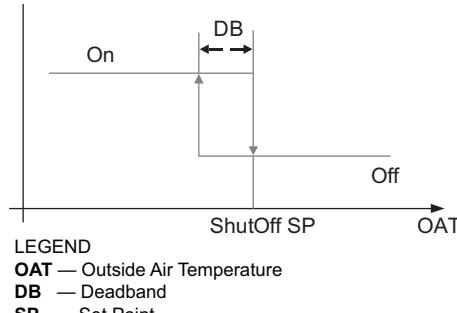

Fig. 68 — Hysteresis Settings
Hysteresis setting (DB) defaults to 2°F (−17°C). See Fig. 68.